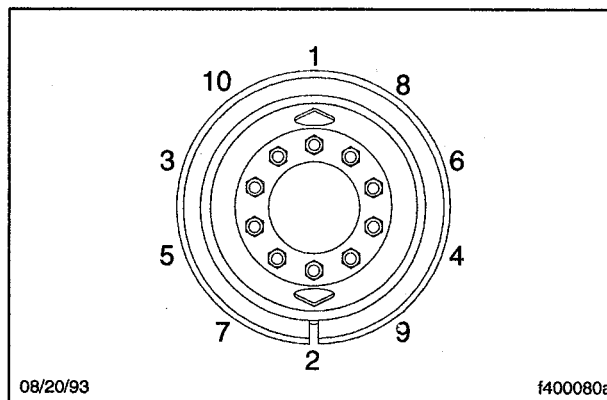

Fig. 8, 10-Stud Disc Wheel Tightening Sequence
- 7.6 Install and hand-tighten the remaining two-piece flange nuts. Tighten the nuts 50 lbf-ft (68 N·m) following the sequence in Fig. 8.
- 7.8 Following the sequence in Fig. 8, tighten the two-piece flange nuts 450 to 500 lbf-ft (610 to 678 N·m).
Too little wheel nut torque can cause wheel shimmy, wheel damage, stud breakage, and extreme tire tread wear. Too much wheel nut torque can break studs, damage threads, and crack discs in the stud hole area. Use the specified torque values, and follow the tightening sequence in Fig. 8.
- 7.10 After operating the vehicle for 50 to 100 miles (80 to 160 km), retighten the wheel nuts 450 to 500 lbf·ft (610 to 678 N·m). Follow the sequence in **Fig. 8**.